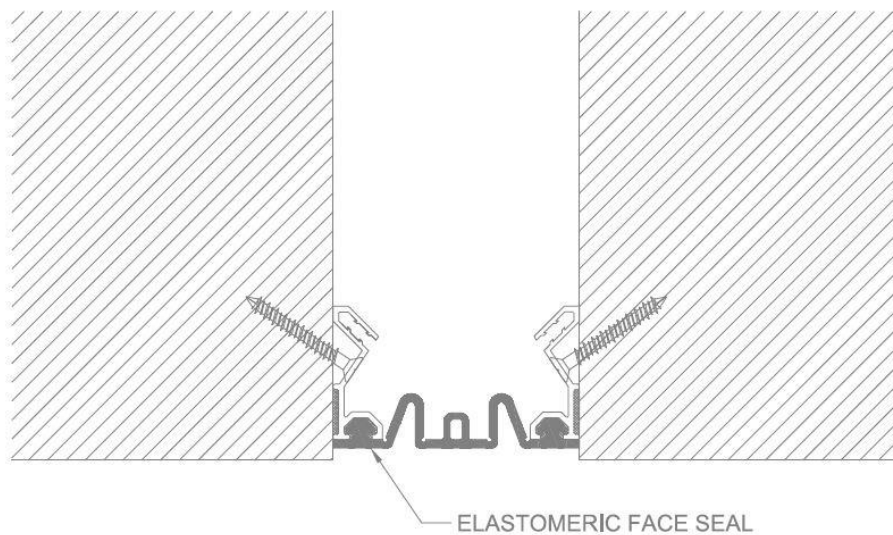

FIGURE 3
3. Place the elastomeric seal into position and push the seal bulbs into extrusion channels as shown. **See Figure 3**. Make sure the bulbs are seated all the way into the channel. Do not stretch the seal lengthwise during installation.